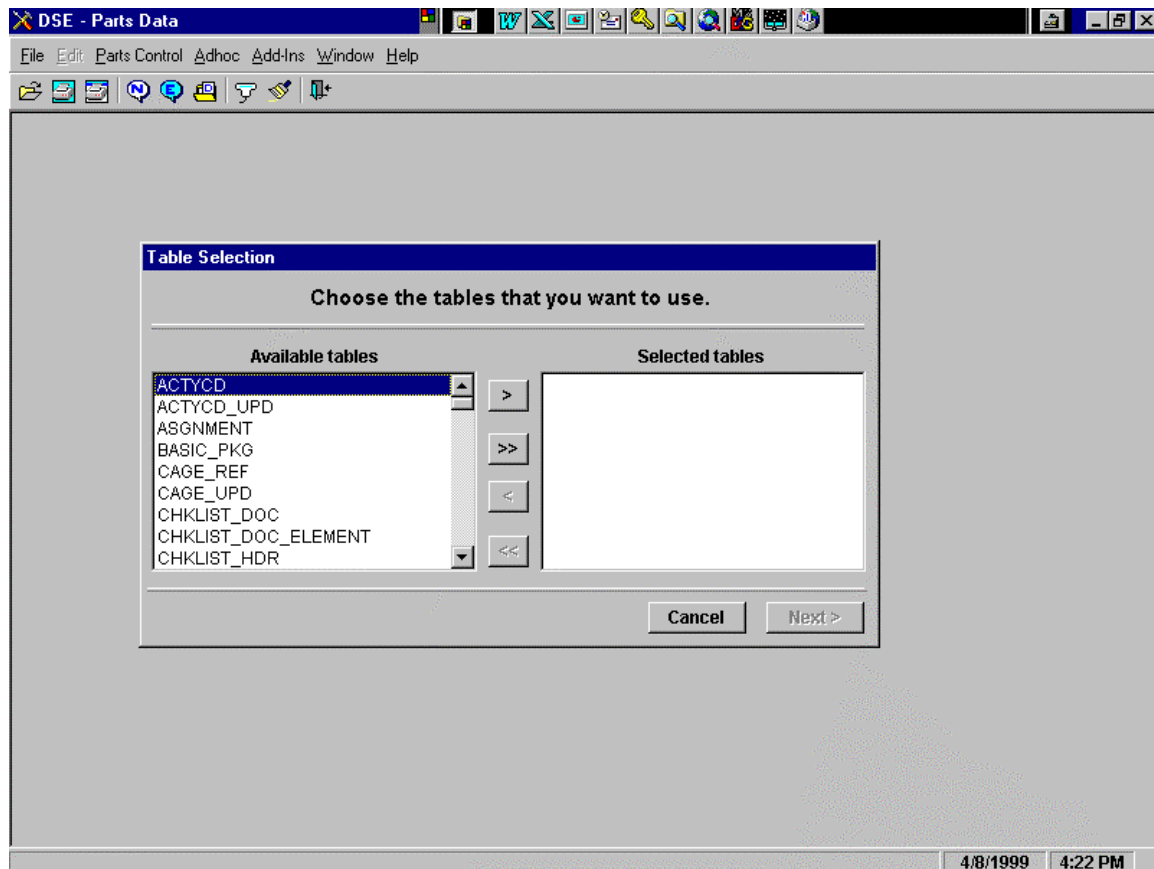

Figure 5.3c
(1) Table Selection - See Figure 5.3c. Select the table or tables you wish to query against. Remember, if more than one table is selected, you must tie the two together with a common data element. Highlight the table, then click on the > to move it over to the Selected Tables area. The >> will move all tables at the same time. Once you have moved a table to the Selected Tables area, two additional buttons become available. < symbol will move the highlighted table back, << will move all tables back. Double-clicking on the element will also move it back and forth. Each button also has an online help. Leave the arrow near the bottom of the button for a few seconds and help text (tool tip) will be provided. When completed, click on NEXT> to continue.